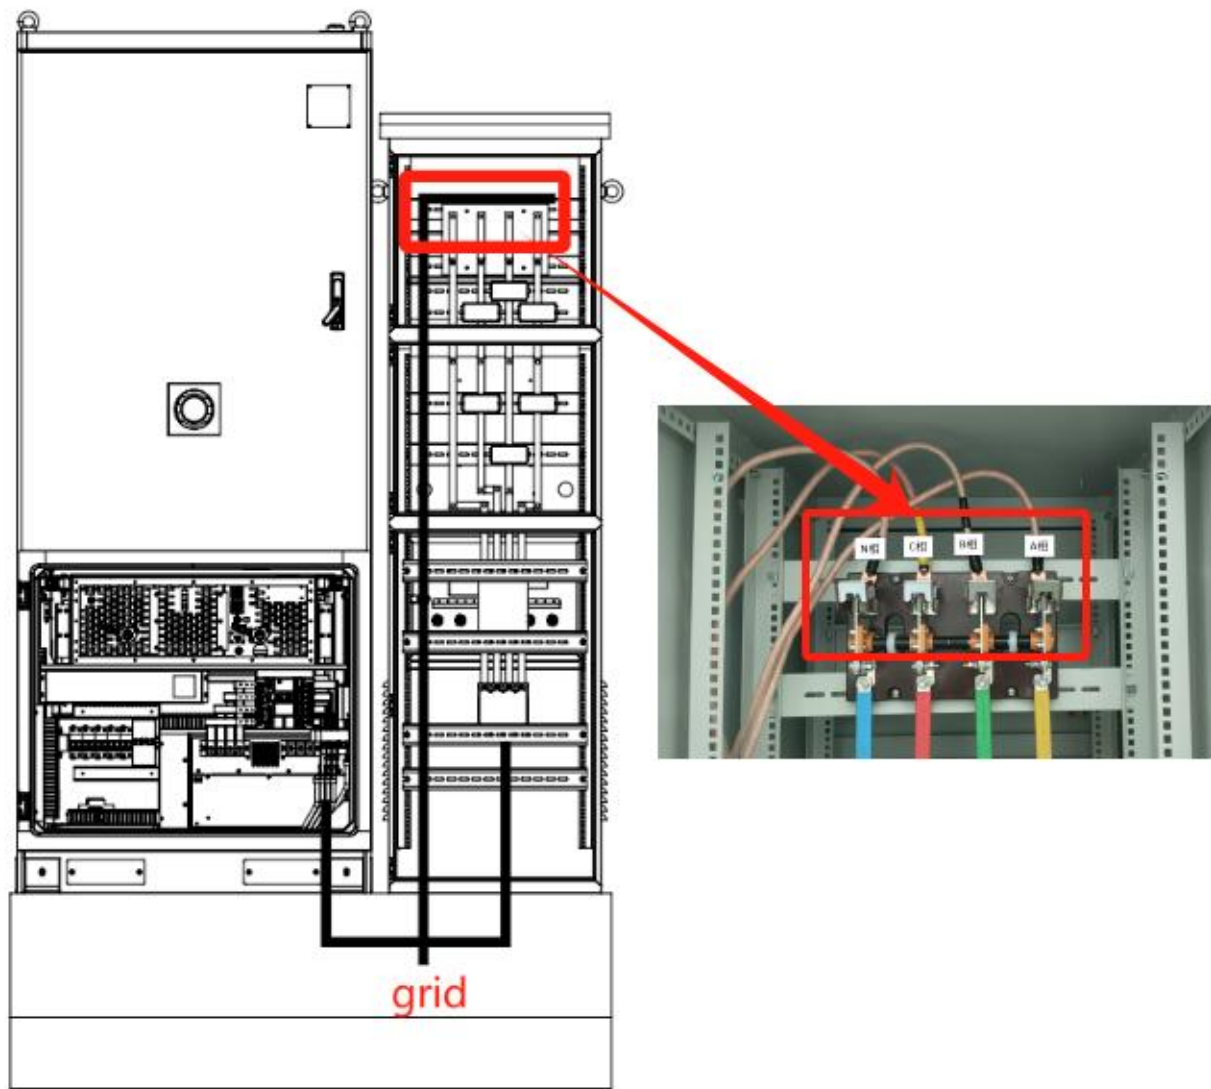

Figure 5.12 Grid Wiring Diagram
(1) Before turning on the AC side, perform the following checks:
- ① Measure the AC line voltage to ensure that the AC line voltage is within the normal AC voltage range of the energy storage outdoor cabinet.
- ② Confirm the cable phase sequence and mark it.
- ③ Before wiring, ensure that the grid-side distribution circuit breaker is in the disconnected state and that both AC and DC disconnect switches are in the disconnected state.
(2) The procedure for wiring the AC side cable is as follows:
① Confirm that the grid distribution switch on the back stage of the AC side of the energy storage outdoor cabinet is off.
② Verify that both the AC and DC disconnect switches of the energy storage outdoor cabinet are disconnected.
③ Determine the phase sequence of the AC connection cable and mark it.
④ Select suitable size bolts and use a wrench to fix the connection of "A" phase, "B" phase, "C" and "N" phase cables to the guillotine switch of the grid-connecting cabinet respectively, as shown in Figure 5.12. "A" phase, "B" phase, "C" and "N" phase cables are connected to the guillotine switch of the grid-connecting cabinet, as shown in Figure 5.12.
⑤ Connect the phase "A", "B", "C" and "N" cables of the energy storage cabinet to the circuit breaker of the grid-connected cabinet as shown in Figure 5.12. The "A", "B", "C" and "N" phase cables of the storage cabinet are connected to the circuit breaker of the grid-connected cabinet as shown in Figure 5.12.